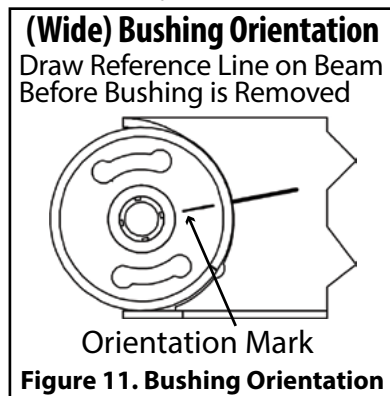

Figure 11. Bushing Orientation
1. Draw/scribe a line on the trailing arm beam using the locator mark on the installed bushing as the reference (Figure 11).